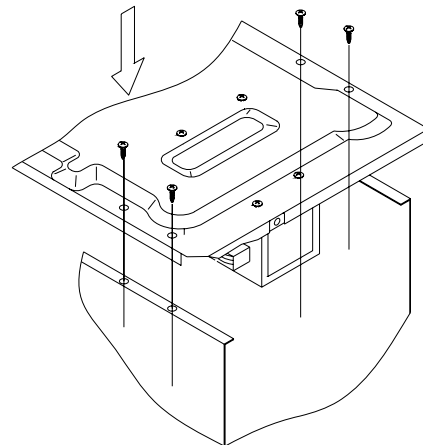

Fig. 4-10
2. Fix the transformer on the oven as FIG.4-10.tear off the protect paper of the rubber spacer, set it between the transformer and the oven, make sure the adhesive side is stucked on the oven.